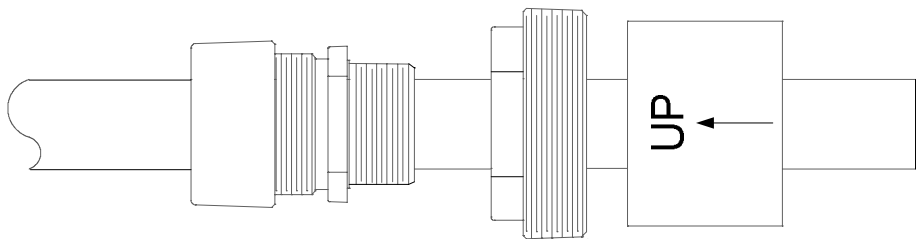

Figure 10: Single float assembly
- a. If installing one float, see Figure 10.